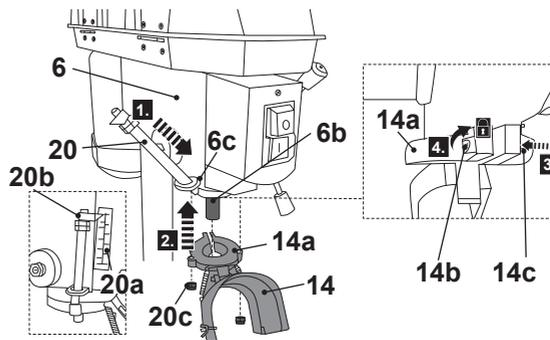

Fig. 5
1. Align and pass the depth scale (20) through the ring hole (6c) of the machine head (6) (Fig. 5, step 1).
3. Slide the clamp (14a) onto the spindle neck (6b) (Fig. 5, step 2).
4. Fold up the chuck guard (14), then attach the nut (20c) to the depth scale (20) from below the clamp (14a).
5. Tighten the depth scale (20) to lock it in position, then fold down the chuck guard (14).
6. Push to lock the nut (14c) into the clamp (14a) (Fig. 5, step 3), then tighten the crosshead bolt (14b) clockwise to secure the clamp (14a) onto the machine head (6) (Fig. 5, step 4).